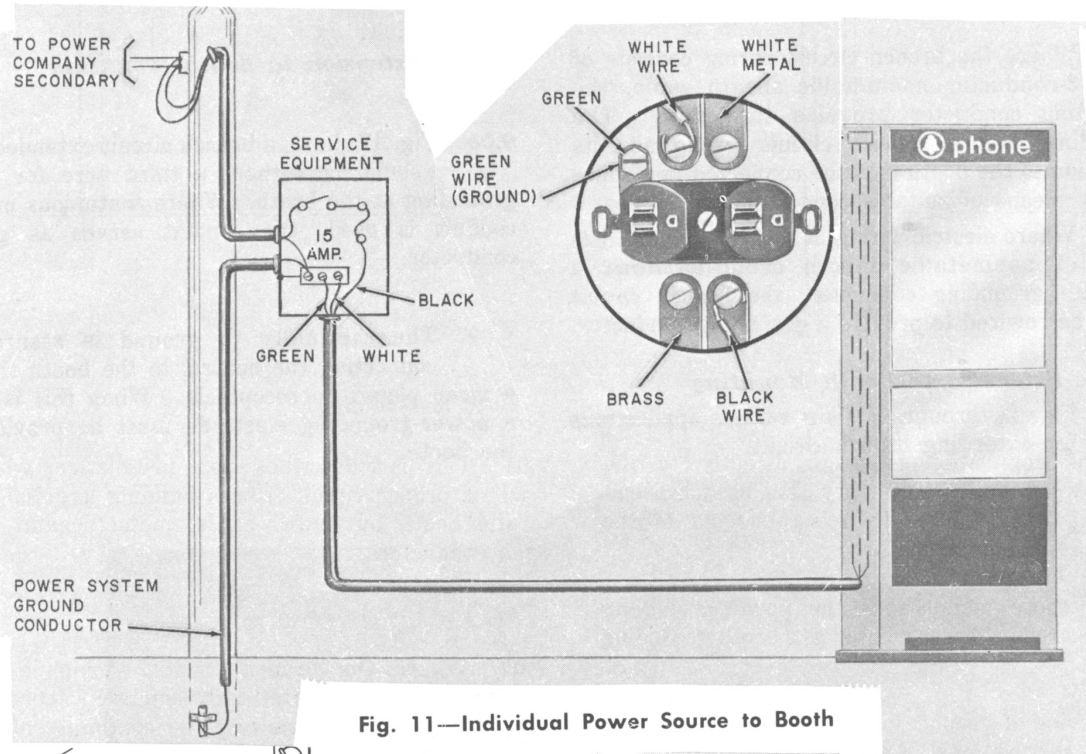

Fig. 11—Individual Power Source to Booth
**8.01** Refer to Fig. 11 and 12 for this type service. Similar installations may have the fuse and cutout switch mounted on an adjoining post or wall, on the booth/mounting, or on a service mast.